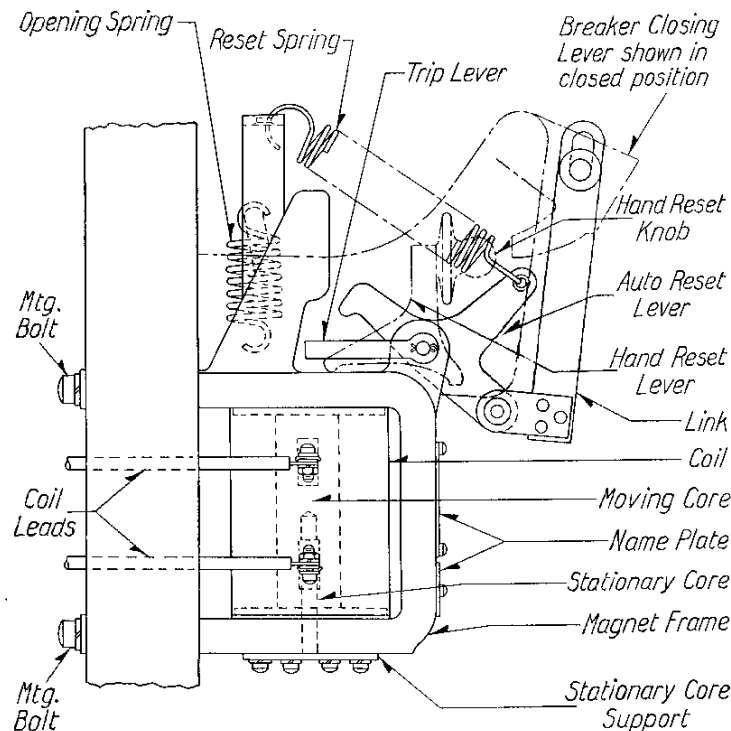

FIG. 11—UNDervOLTAGE RELEASE ATTACHMENT
**Undervoltage Release Attachment (Figure 11)**—This is a device for use in automatically tripping a circuit-breaker when the supply voltage drops to a predetermined value. The mechanism consists of a solenoid type of magnet, the movable core of which is held to the stationary core against a strong spring. When rated voltage is applied to the coil of the magnet, sufficient current flows through it to hold the movable core against the resistance of the spring but when the voltage drops to less than 60% of normal the pull of the magnet is no longer great enough and the spring propels the movable core upwards thus tripping the breaker.